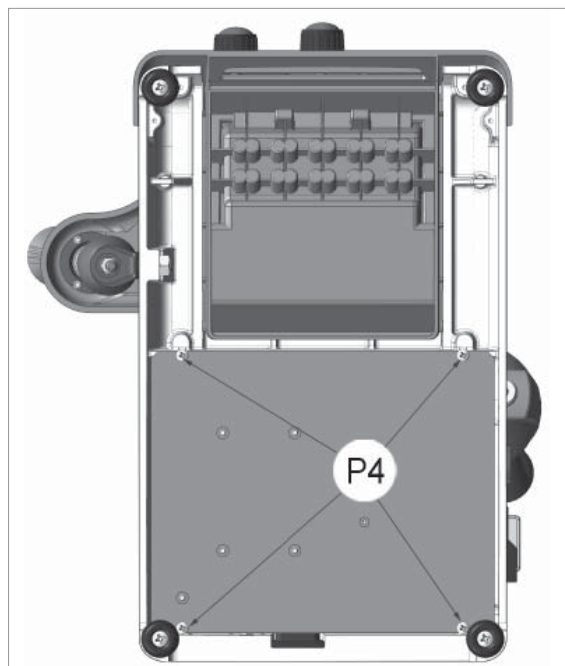

Fig. 72
- 1) Turn off switch (P) and detach the power lead.
- 2) Place the key-cutting machine on its back and loosen the 4 screws (P4) to remove the bottom safety plate (Fig. 72).
- 2) Turn the key-cutting machine on its back and loosen the 4 screws (P4) to remove the bottom safety guard (Fig. 72).
- 2) Turn the key-cutting machine onto its back and loosen the 4 screws (P4) to remove the bottom safety guard (Fig. 72).